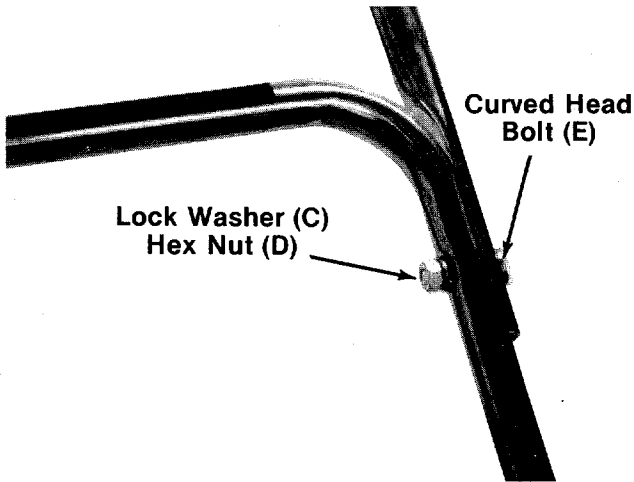

FIGURE 4.
4. Place the upper handle in position over the lower handle. The control housing must be on the left hand side of the handle. Secure the left hand side of upper handle using the curved head bolt (E), lock washer (C) and hex nut (D) as shown in figure 4.